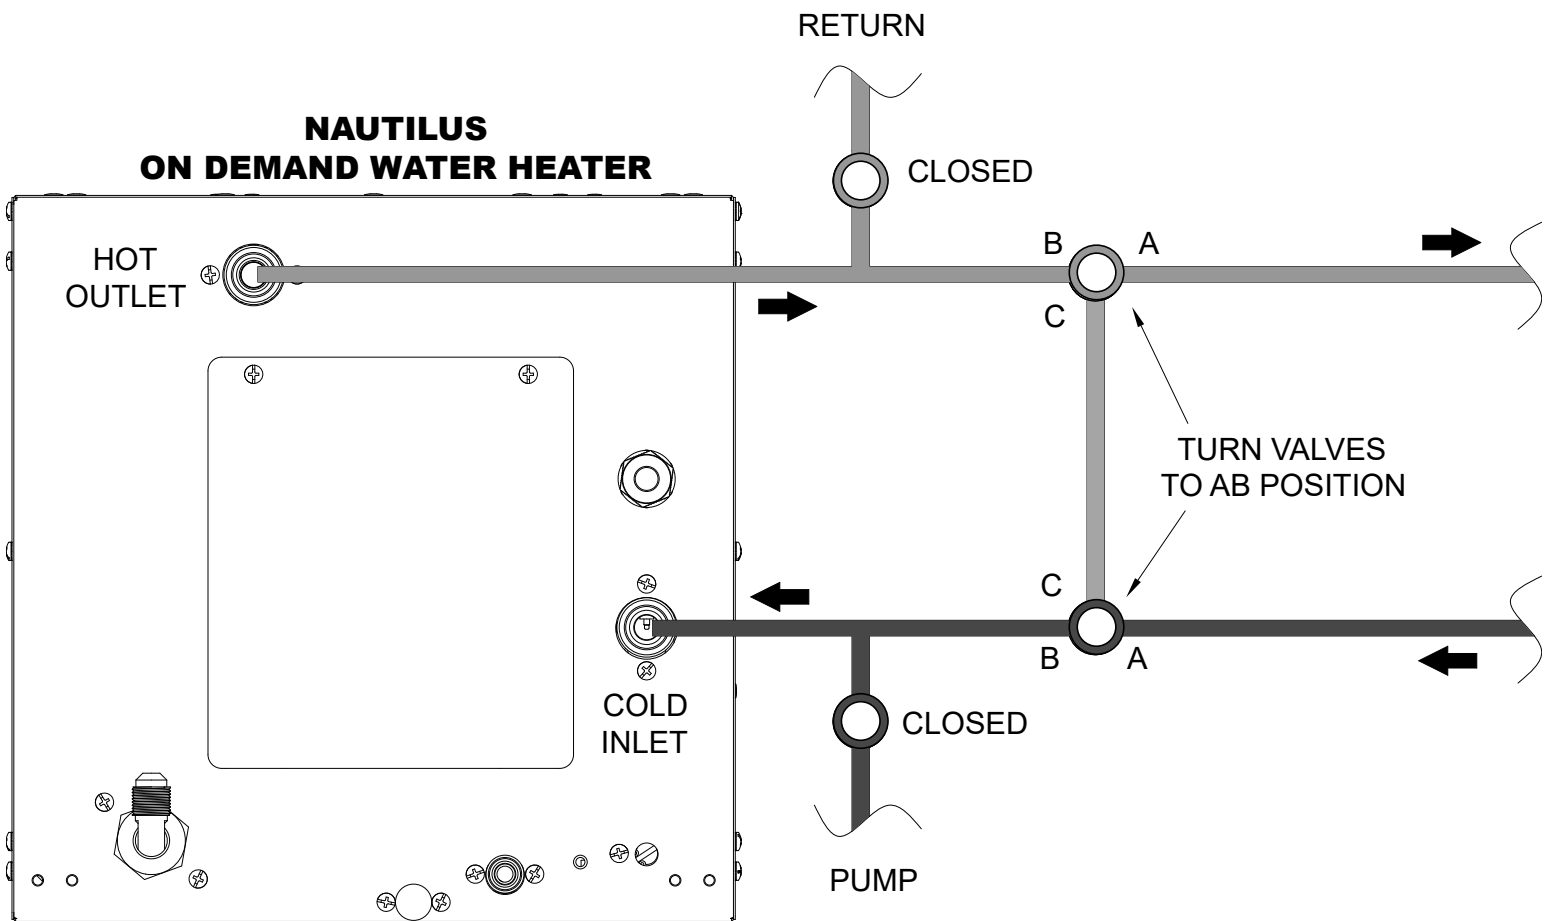

FIGURE 2
- b. Figure 2 shows the bypass system in normal operation mode.